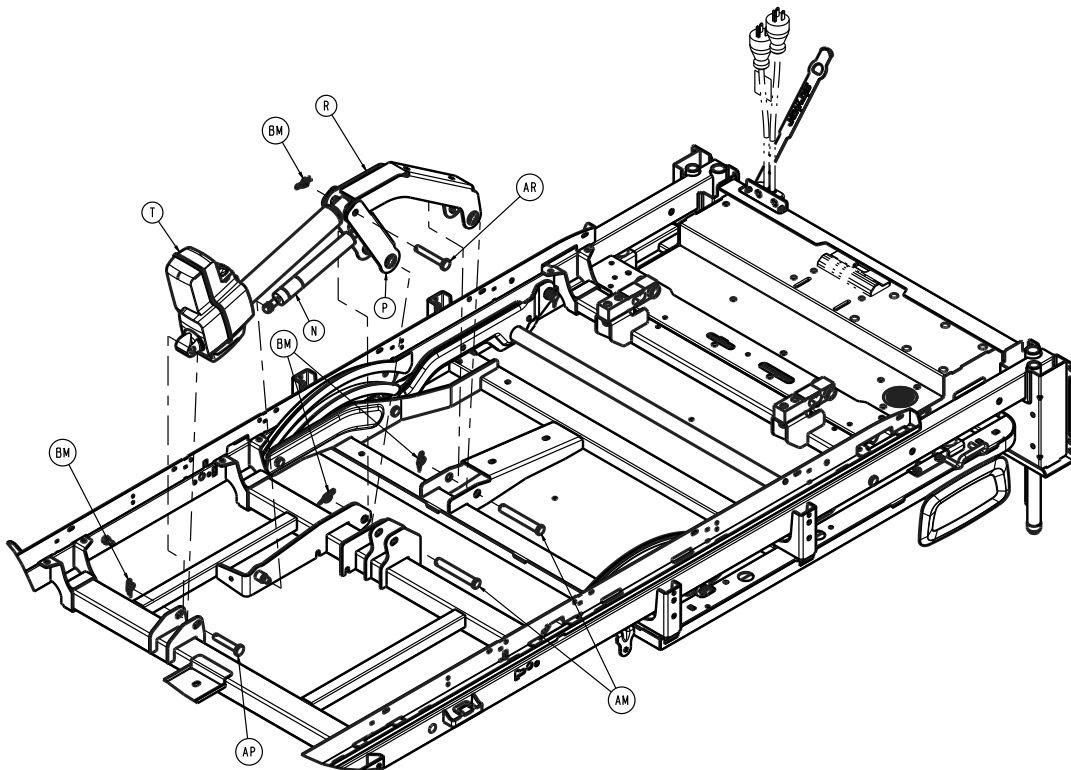

Figure 42 – Replacing the Fowler actuator
11. Using needle nose pliers, remove the two ruer clips (BM) from the two clevis pins that secure the Fowler actuator (T) to the litter and the Fowler frame (Figure 42). Save the ruer clips.
12. Support the actuator. Remove and save the two clevis pins (AP, AR) (Figure 42).